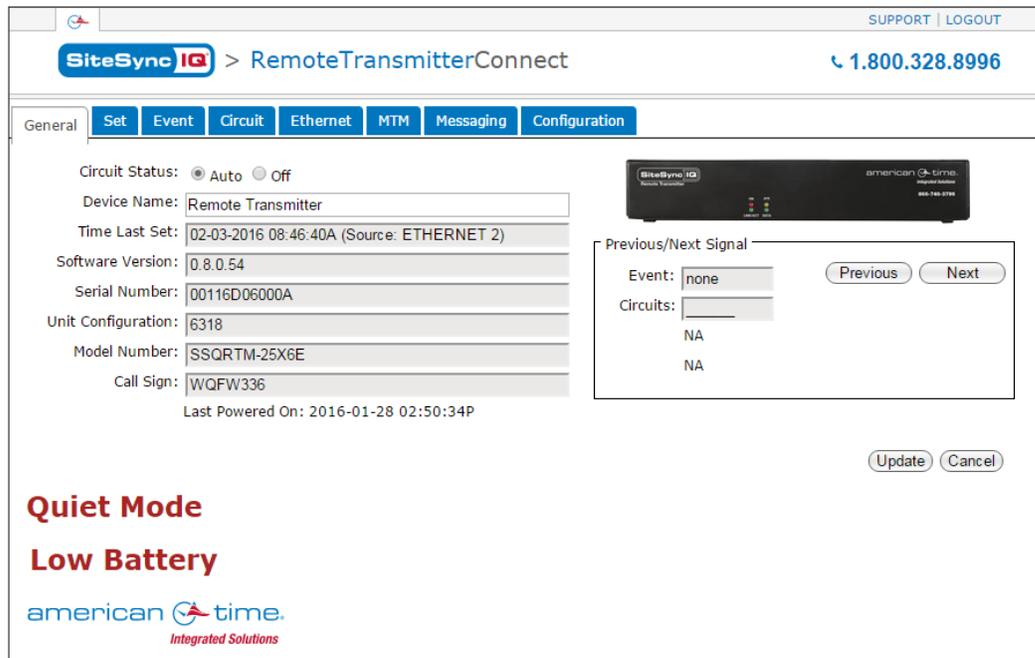

Figure 1
2. Open a web browser. Enter the Host Name from page 8 as `http://sqrxxxxxx/` in the web browser's Address field (Figure 1). Press the **Enter** key.